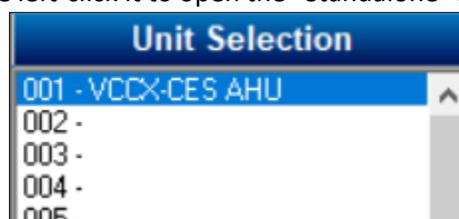

Figure 38: Selecting VCCX-CES AHU
- Search for the “VCCX-CES AHU” Controller option on the left-hand side of the main Prism 2 screen under “Unit Selection” (see figure 38). Double left-click it to open the “Standalone” screen.